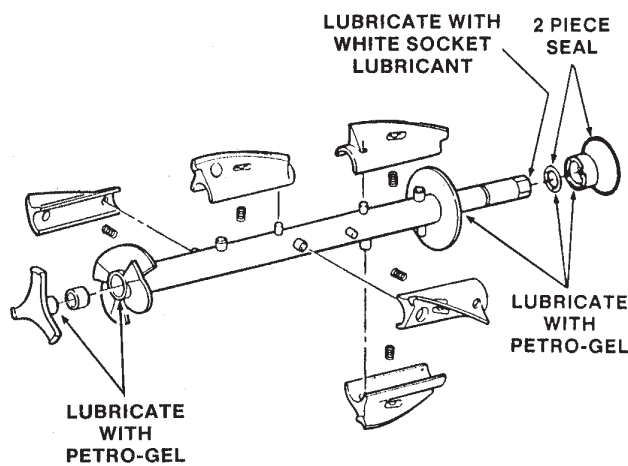

Figure 27. Exploded View of Auger
D. Screw the springs onto the studs in plastic flights. **Springs must be screwed into the flights completely** to provide proper tension (Fig. 27).